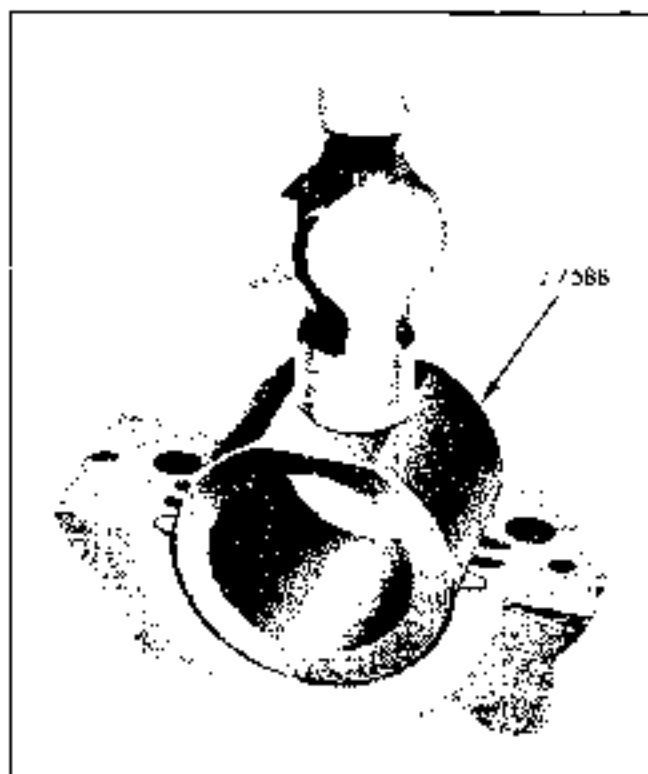

Fig. 6-106 Forcing New Seal in Case
6. Form a new seal in the cap (Fig. 6-106).
7. Remove the newly formed seal from the cap and cut four (4) pieces approximately 3/8" long from this seal.
9. Form another new seal in the cap (Fig. 6-106).